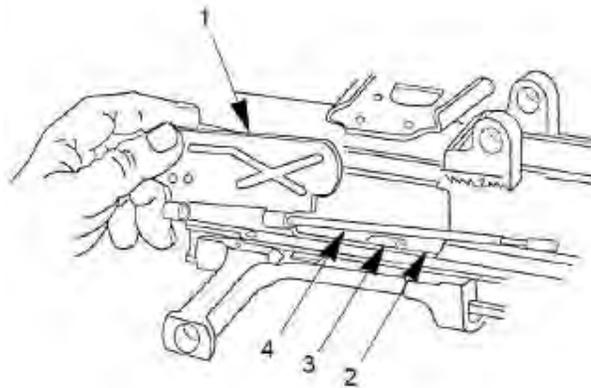

Figure 16. Installation of Grooved Headless Pin.
2. Insert the ejection port cover (Figure 16, Item 1) with the grooved headless pin (Figure 16, Item 4) into the ejection port of the receiver assembly (Figure 16, Item 2). Then push the grooved headless pin (Figure 16, Item 4) through the receiver hinge (Figure 16, Item 3) exposing about 1/2 inch of the pin (Figure 16, Item 4).